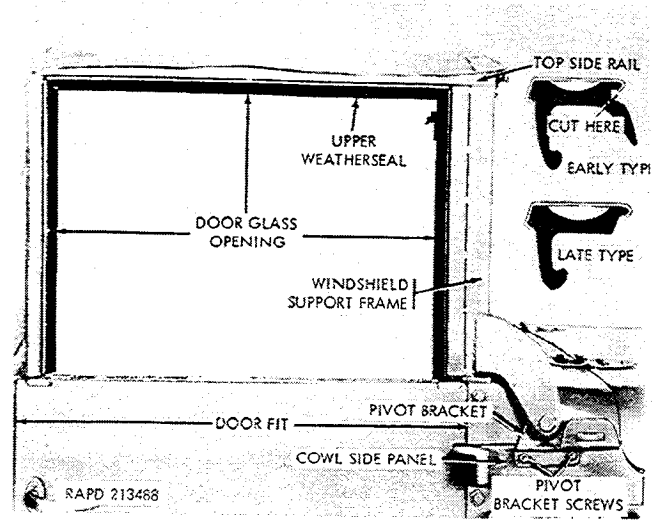
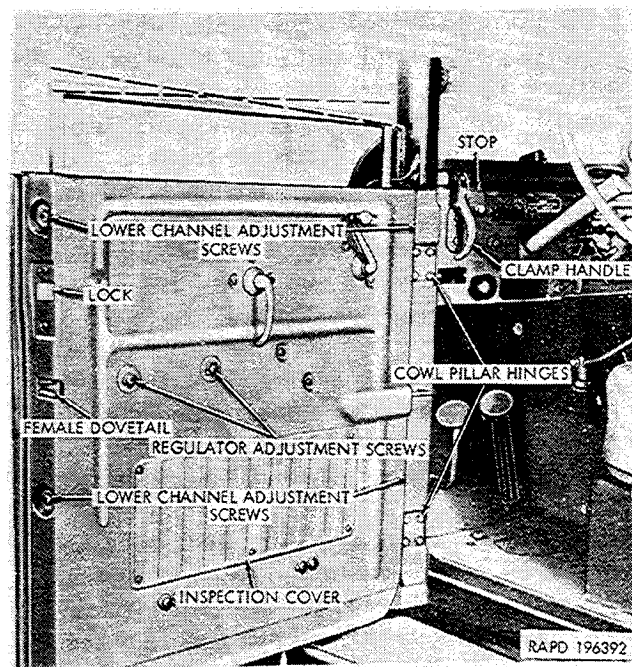
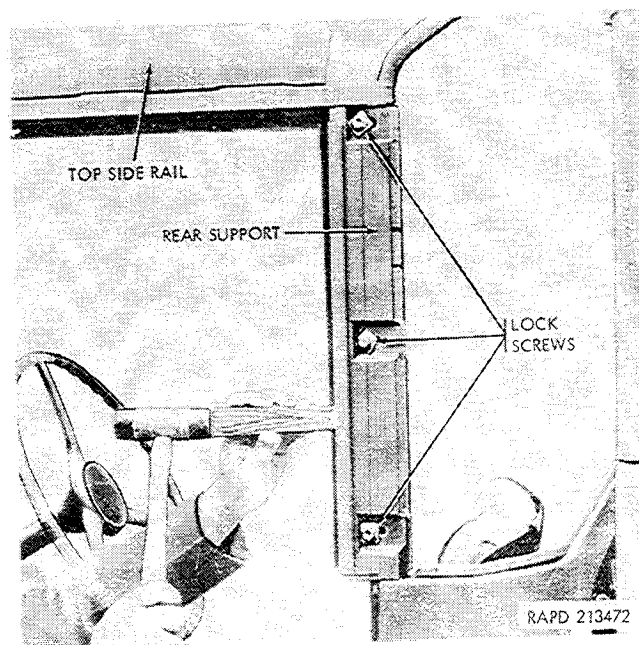
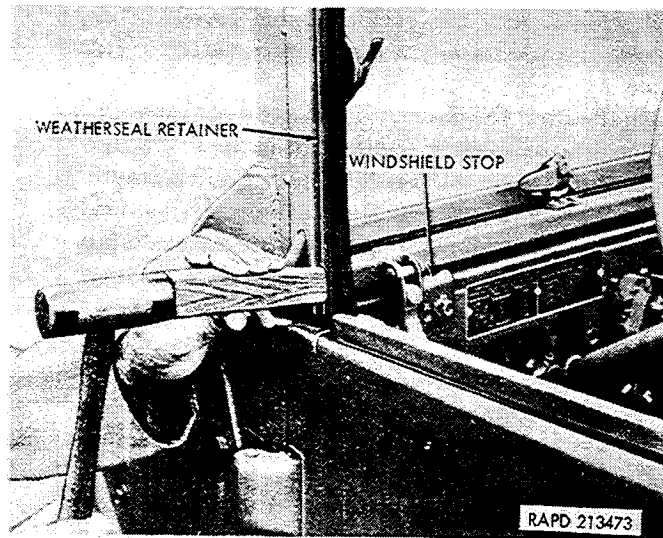

Figure 2-185. Alinement of driver's compartment door and door glass.
Figure 2-187. Door and glass adjustments.
Figure 2-188. Top side rail rear support adjustment.
Figure 2-189. Weatherseal retainer adjustment.
b. Check Alinement of Door and Door Glass (Fig. 2-185).
d. Align Door in Door Opening. If the spaces between the vertical edges of the door and the door opening (fig. 2-185) very considerably, bend the two hinges on the hinge pillar (fig. 2-187) using a bending tool.
(1) Loosen slightly the two pivot bracket screws that secure the pivot bracket to the cowl side panel (fig. 2-185) and the two screws that secure the top side rail to the rear support (fig. 2-188).
(2) Place a hardwood block against the pivot bracket (fig. 2-185), and strike the block with a hammer to move the bracket the required distance and direction to align the windshield support frame.
(3) Tighten the pivot bracket screws.
(4) If the angle of the windshield support frame requires adjustment to provide uniform vertical alignment, release the two clamp handles (fig. 2-187), and loosen the two screws that secure each windshield stop. Move the top of the windshield support frame in or out, as required to provide the correct angle of the windshield support frame. Correctly position the stops, tighten the two screws that secure each stop, and the two screws that secure each top side rail. Lock the windshield clamp handles.
(5) If the two clamp handles (fig. 2-187) are too tight or too loose, loosen the two screws that secure each clamp bracket to the instrument panel, and move the brackets up or down, as required, using a hardwood block and hammer. Tighten the two screws for each bracket and lock the windshield clamps.
f. Aline Door Glass. If the space at the top of the door glass frame is not uniform, loosen the two regulator adjustment screws (fig. 2-187), and move either corner of the door glass up or down, as required. Tighten the two screws.
g. Adjust Top Side Rail Rear Support (Fig. 2-188) (Except Ambulance Truck M43). The top side rail rear support may be adjusted to provide proper clearance between the door glass frame and the support weatherseal.
(1) Loosen the three adjustment lock screws that secure the rear support.
(2) Move the support forward or back, as required, using a hardwood block and hammer. Tighten the three lock screws.
h. Adjust Weatherseal Retainers (Fig. 2-189). If the inner sides of the door glass frame do not make complete contact with the weatherseals, move the weatherseal retainers in or out, as required, using a hardwood block and hammer.
(1) Loosen the four lower channel adjustment screws (fig. 2-187) that secure the door glass channels.
(2) Move the top or bottom of either channel in or out, as required, to provide the correct angle of the glass.
(3) Tighten the four adjustment screws.
j. Adjust Door Hinges (Fig. 2-187). If the door glass frame does not contact the upper weatherseal after the adjustments (*h* and *i* above) have been performed, adjust the position of the cowl pillar hinges. If the top of the door must be tilted in, loosen the four screws in the lower hinge, force the lower hinge out, and tighten the screws. Then loosen the screws in the upper hinge, correct any distortion caused by adjustment of the lower hinge, and tighten the screws in the upper hinge.
The upper weatherseal (fig. 2-185) on some early production vehicles is a U-shaped seal, necessitating slight lowering of the glass to open or close the door. The outer edge of this type of weatherseal may be removed with a sharp knife or razor blade. Seal the cut edge of the weatherseal with rubber cement or paint to prevent fraying of the fabric.
(1) Remove the six lockwasher screws that secure the inspection cover (fig. 2-187) on the inside panel of the door, and remove the cover.
(2) Lower the glass. Remove the two lockwasher screws that secure the door glass lower channel stop, and remove the stop.
(3) Remove the two retainers that secure the lower channel to the regulator arms.
(4) Disengage the regulator from the door glass lower channel and remove the door glass from the top of the door.
(6) Loosen the upper rear support adjustment lock screws (fig. 2-188) at the right and left sides, and remove the top bow from the side rail rear supports.
(7) Loosen the nuts on the J bolt and U bolt in each cab lock pillar. Remove the two lockwasher screws that secure each top side rail to the windshield frame and remove the two side rails and side rail rear supports as units. Remove the nuts and lockwashers from the J bolts and U bolts. Remove the bolts.
(8) Remove the two lockwasher screws which secure each top side rail to the rear support, and separate the two.
(1) Install the left and right top side rails on the left and right rear supports respectively, and install the two lockwasher screws in each side.
(2) Place the J bolt and U bolt in each cab lock pillar, and aline them for installation of the top side rail with rear supports. Install the left and right rear supports. Install but do not tighten the two lockwasher screws to secure each support to the windshield frame. Install the two lockwashers and nuts on each J bolt and each U bolt. Tighten the nuts.
(3) Install the top bow in the left and right side rail rear supports, and tighten the two adjustment lock screws (fig. 2-188).
(4) Check the door glass alinement, and adjust as necessary (para 2-169).
(5) Insert the front of the top cover in the left